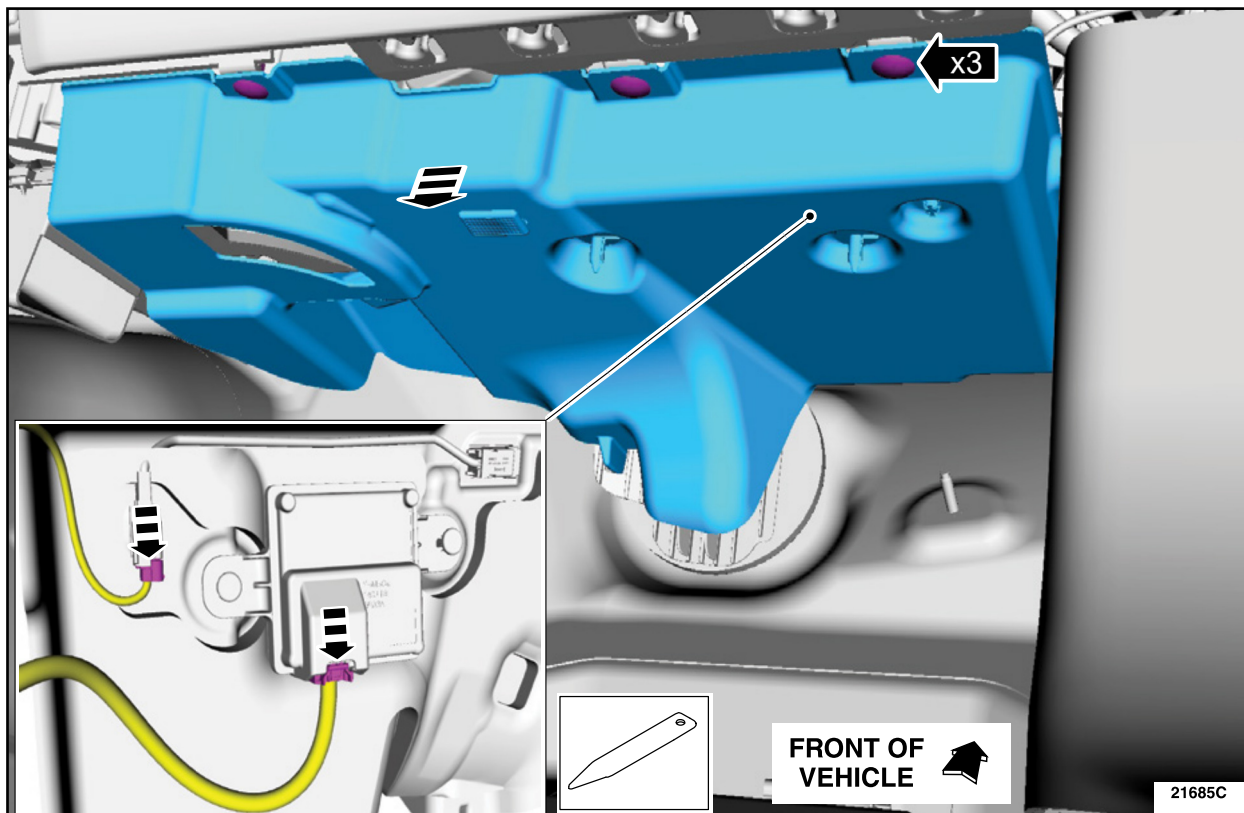

FIGURE 3
7. Using an Interior Trim Remover, remove the push pins and the RH insulation panel. See Figure 3.